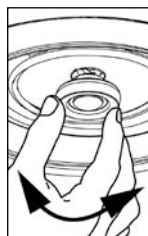

Figure 4. Tweeter adjustment.
7. Direct the tweeter. (CM630 only) The tweeter is directed by gently pressing on the outer edge of the tweeter housing. It will move up to 20 degrees in any direction. For critical listening, direct the tweeter towards the user's favorite listening position. For surround sound or low volume background listening, create more reflections and thus more ambiance by directing the tweeter towards the sidewalls. (See **Figure 4**)